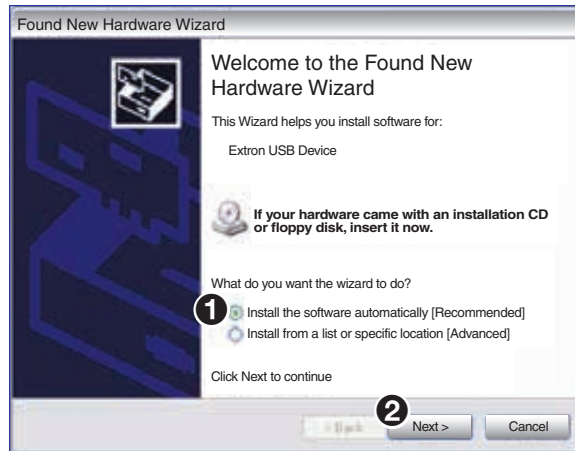

Figure 161. Install the Software Automatically
3. Select **Install the software automatically (Recommended)** (see figure 161, ①).